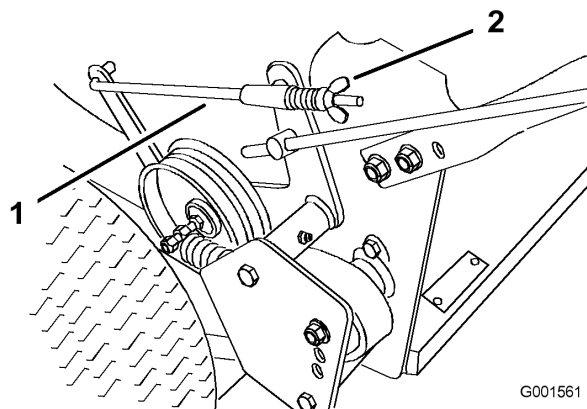

Figure 29
3. To adjust the brakes, rotate the wing nuts on the brake rods (Figure 29). Rotate the wing nuts clockwise to tighten the brakes; rotate them counterclockwise to loosen them.